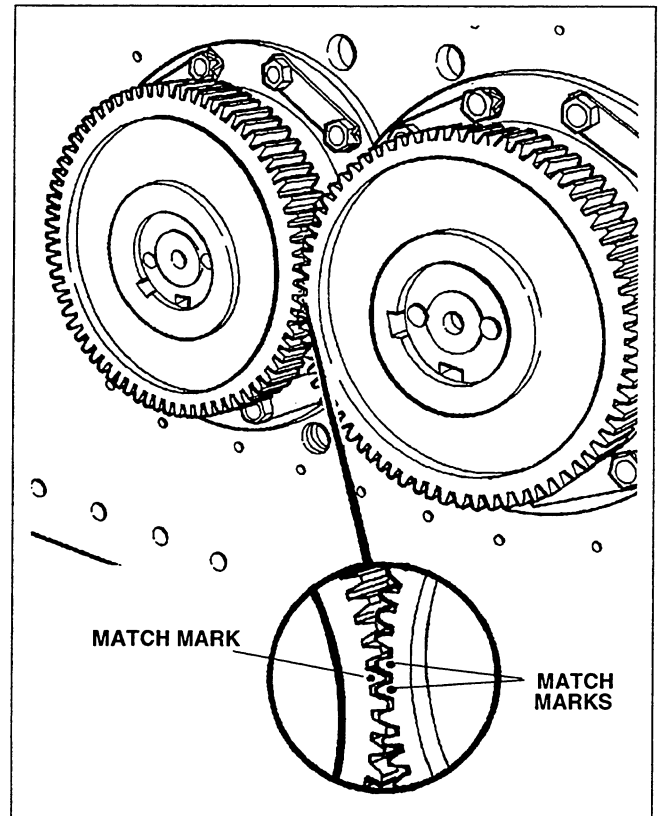
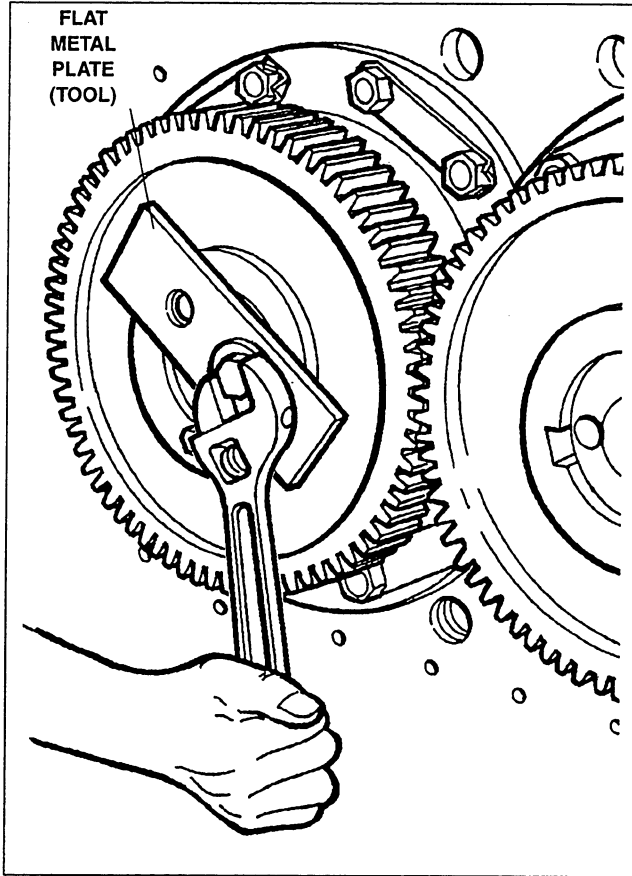
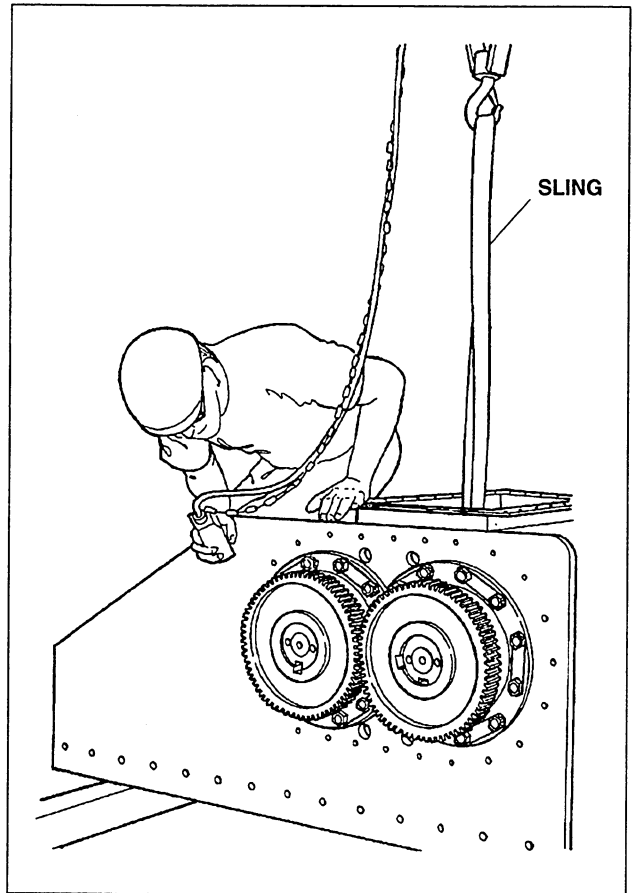

Figure 4-12. Gear Match Marks
Figure 4-16. Installing Metal Plate
Figure 4-18. Turning the Shaft Using a Hoist and Sling
A. Slide two gears (30) onto the ends of shafts (14 and 48). Either gear may be used on either shaft. Be sure to align the match marks on the gears as shown in Figure 4-12.
11. Install gears (30) on the ends of shafts (14 and 48). Be sure the center punched match marks on the gears are properly aligned (the single center punch on one gear must be between the two center punch marks on the second gear). See Figure 4-12.
12. Rotate the gear on shaft (14) until the gear keyway is aligned with the shaft keyway.
13. Install a flat metal plate on the end of shaft (14) to take up all clearances in the assembly and to keep the gear keyway aligned with the shaft keyway as the shaft-to-gear hugger key (31) is installed. See Figure 4-16.
14. Install shaft-to-gear hugger key (31) as follows:
16. Install key (31) to secure the second gear (30) to shaft (48) as follows:
- A. Attach a sling around shaft (14) and attach a sling to the hoist. Upward movement of the hoist rope will turn the shaft. See Figure 4-18
- B. Slowly move the hoist rope upward until the shaft turns sufficiently to line up the keyway of gear (30) and the keyway of shaft (48).
- C. Check to be sure the gear center punched match marks are properly aligned as shown in Figure 4-12 (a single center punch on one gear between two marks on the second gear).
- D. Install key (31) in shaft (48) in the same manner as described in steps 14 and 15.
17. Install retaining washers (34) on shafts (14 and 48) and secure with capscrews (35). Block shafts (14 and 48) so they can not turn. Tighten the capscrews in accordance with the torque chart in Appendix A